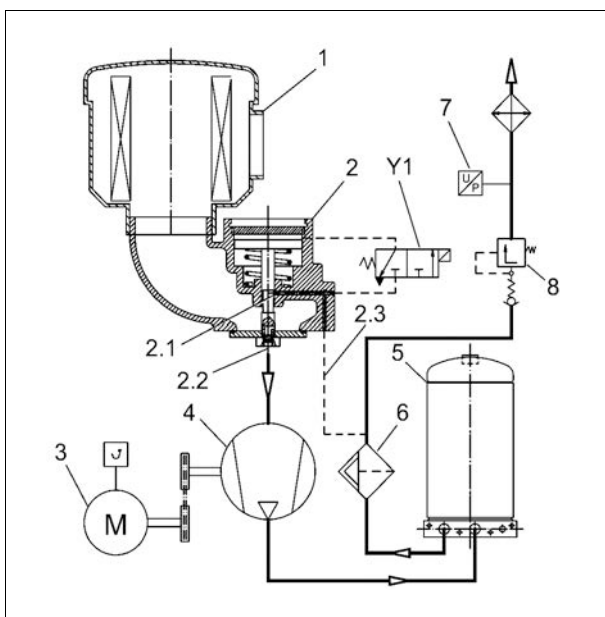

Fig. 5b L15-L22
- The motor (- 3 - Fig. 5b) starts up in the Y-mode.
- When the system is at rest the intake regulator (- 2 - Fig. 5b) is closed.
- The solenoid valve (Y1 Fig. 5b) is de-energised.
- The pressure reservoir (- 6 - Fig. 5b) is bled via the blow-off line (- 2.1- and -2.3- Fig. 5b) into the suction channel.
- The compressor extracts a certain volume of air via a start valve (- 2.2 - Fig. 5b). Pressure builds up in the reservoir.
- When changing over to Δ -operation, the solenoid valve (- Y1 - Fig. 5b) is energised and a connection is then established between the pressure reservoir and the intake regulator.
- The minimum pressure valve (- 8 - Fig. 5b) opens when the pressure reservoir is approx. 4.5 bar.
- The intake regulator (- 2 - Fig. 5b) is bled and closed.
- The pressure reservoir (- 5 - Fig. 5b) is depressurised via the intake filter.
- If the lower switching point is reached in less than 90 seconds, the solenoid valve (- Y1 - Fig. 5b) is energised again.
- After pressing the OFF button  (Fig. 16) on the operating panel, the solenoid valve (- Y1 - Fig. 5b) is de-energised.
- The intake regulator (-2- Fig. 5b) closes and the tank (-5- Fig. 5b) is relieved.
After 30 seconds, the drive motor (- 3 - Fig. 5b) is shut down.